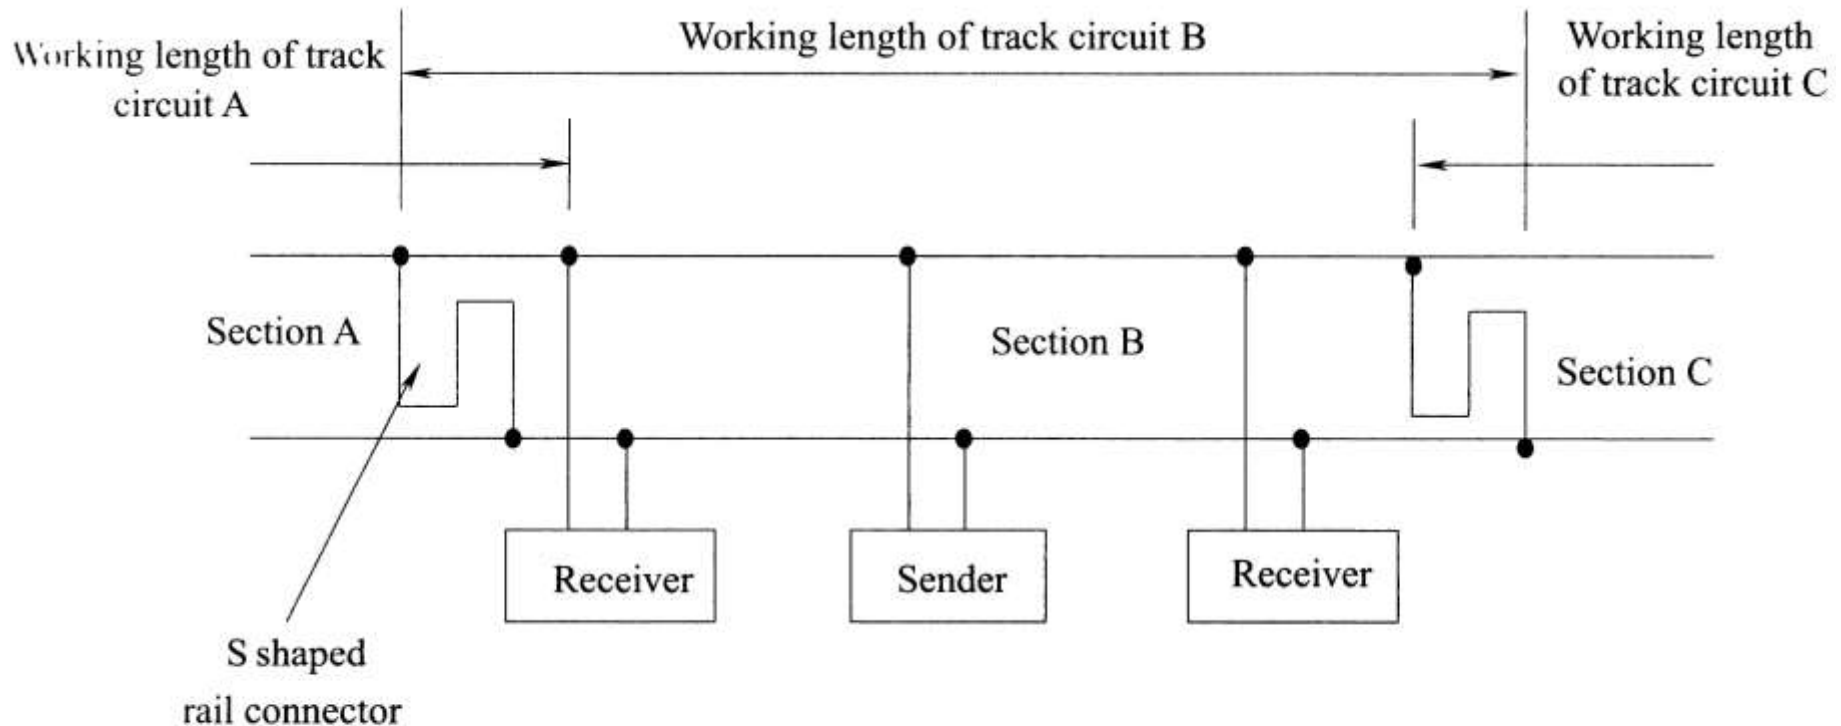

Fig. 5.3 Jointless track circuits
- ◆ For this purpose S-shaped rail connectors are used (Fig.5.3).